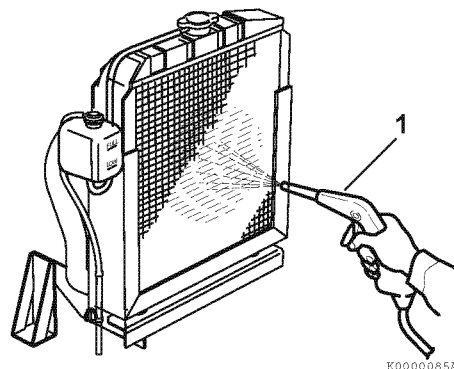

Figure 5-7
Note that a typical radiator is shown in **Figure 5-7** for illustrative purposes only.
- Blow off dirt and dust from fins and radiator with 28 psi (0.19 MPa; 2 kgf/cm²) or less of compressed air (**Figure 5-7, (1)**). Be careful not to damage the fins with the compressed air.